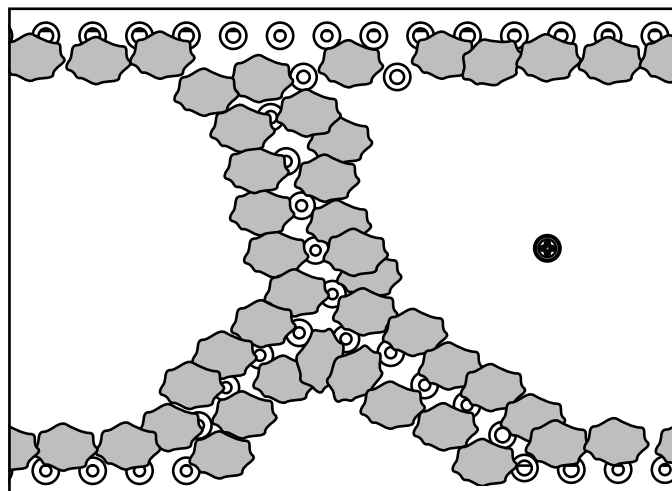

Figure 14.3 Embers Overlapping Burner Port Holes (LP only).
- LP Only:** Using dime-size pieces of Glowing Embers®, overlap the burner ports (see Figure 14.3). The impingement created by the embers will help blend the fire.